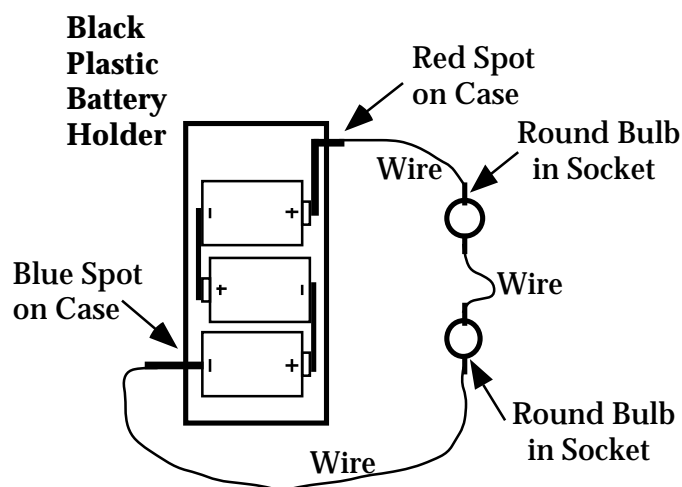
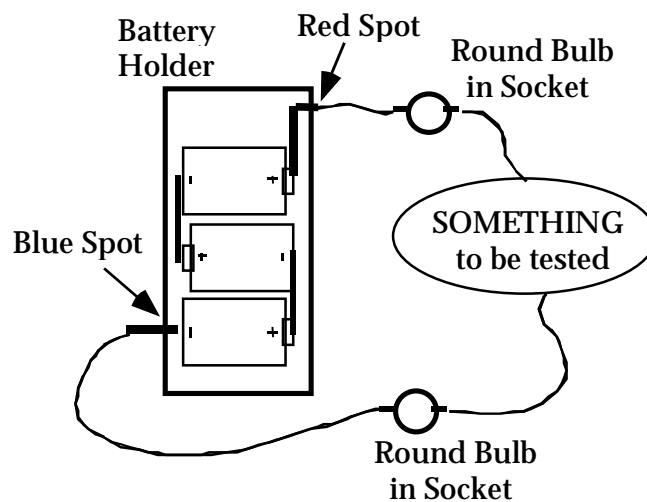
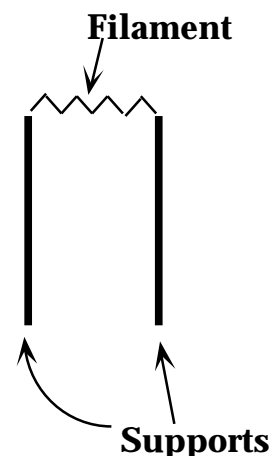

Figure 1.1
Figure 1.8
Figure 1.9a
Insert three D-cells into the battery holder (Figure 1.1), and screw two **ROUND** bulbs (not long bulbs) into a pair of sockets. Use three wires to connect the sockets to each other and to the two “terminals” of the battery holder — 1) the spring inside the case near the red spot, and 2) the metal post on the outside of the case near the blue spot. The bulbs should light and be of equal brightness. The battery, bulbs and wires now form a “closed loop”.
Use the same loop as before (Figure 1.1), but with an additional wire (Figure 1.8).
This circuit (Figure 1.8) will be referred to as the "Testing Circuit". The "SOMETHING" may be anything you like — for example a key, a rubber band, or a comb.
Next assemble the loop in Figure 1.8 to check your predictions. Insert each object into the "something" spot by firmly connecting the alligator clips of wires to it; then observe whether or not the bulbs light. Record your observations in Table 1.8, and classify each object as actually a conductor or insulator.
1. Using the **Testing Circuit** (Figure 1.8), test each of the wire supports (as the ‘Something’ in the test circuit) to determine whether each one is a conductor or an insulator. Then carefully test the delicate filament. Record your results in Figure 1.9a.
3. Test your predictions by using the Test Circuit (Figure 1.8) and record your results in Table 1.9. (You may need to attach a thin copper wire to each alligator clip to use as a probe for small areas.)
1. Using your **Testing Circuit** (Figure 1.8), test each pair of socket parts to determine whether they act as a single continuous conductor. For example: if you connect one wire to each of the two metal clips, will the bulbs light? If they do, then the two clips act as though they were a single conductor. Test every possible combination of clip, plate and base, in order to determine which parts form a continuous conductor.